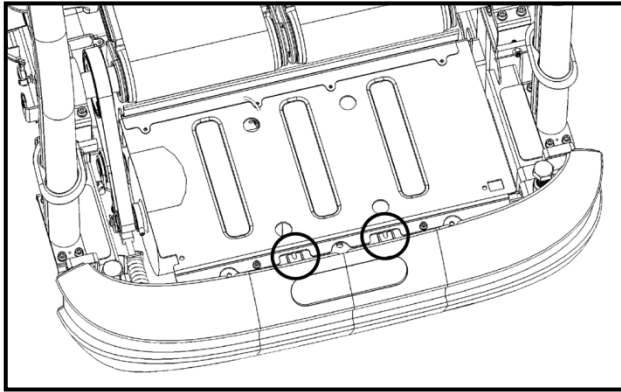
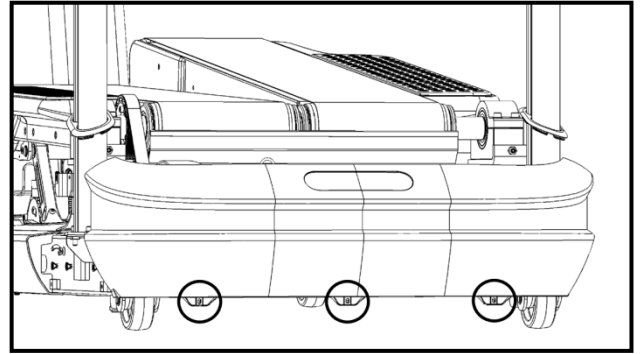

Fig. 23
Fig. 24
22. Mount the rear shroud to the TreadClimber base and secure it in place by installing the corresponding five Phillips head screws to the top (Fig. 23) and lower (Fig. 24) sections at the circled locations.